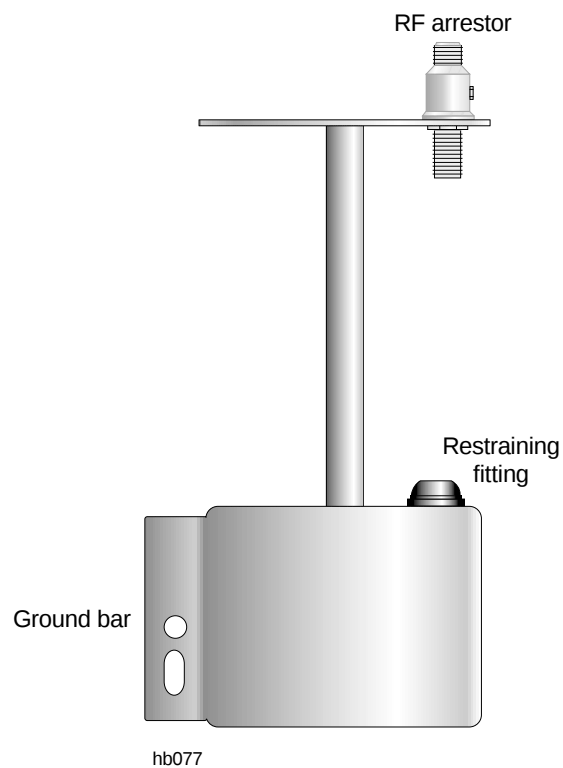
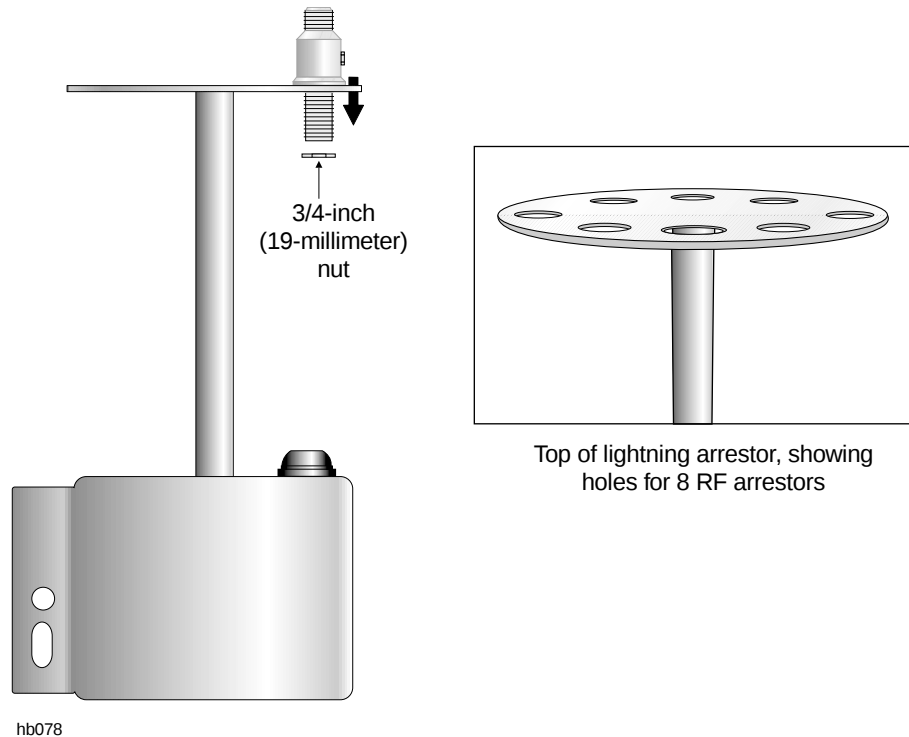

Figure 5-4 Typical hub lightning arrestor
Figure 5-5 Attaching the RF arrester to the arrester body
Figure 5-4 identifies the components of a typical hub lightning arrestor. The design illustrated here (see also figure 5-5) can accommodate up to eight IFL cables for up to eight HTs.
1. Attach an RF arrester to the arrester body with a 3/4-inch (19-millimeter) nut. See figure 5-5.